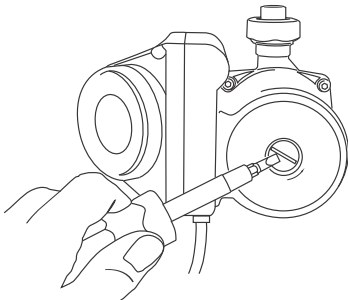

Fig. 7 Rotating the shaft by hand
1. Remove the four (4) hex socket head screws from the pump housing and stator (4 or 5 mm wrench) while supporting the stator (motor).
4. Check that the motor shaft turns freely. Remove the large screw in the middle of the nameplate, insert a small flat blade screwdriver into the end of the shaft, and turn gently. See fig. 7.
4. Insert a small flat-blade screwdriver into the end of the shaft, and gently turn until the shaft moves freely. See fig. 7.